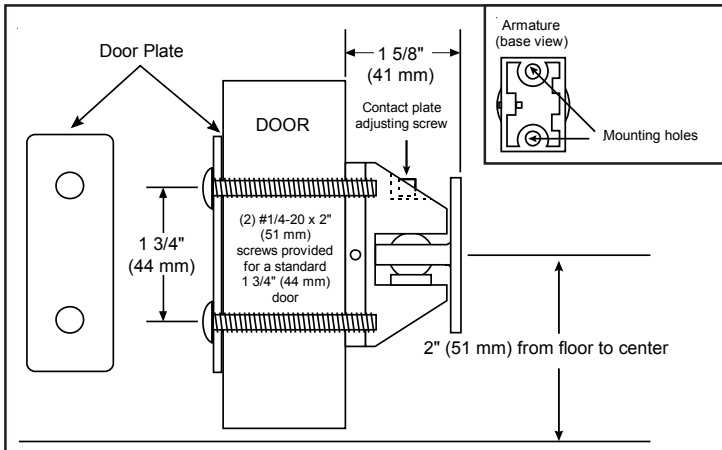

Figure 6. Thru-Bolt Mounting
1. Using a 5/32" Allen wrench, turn the contact plate adjusting screw (Figures 6 and 7) counterclockwise to loosen the contact plate.
- a. **Thru-bolt mounting (Figure 6).** Center punch the two holes (at the points marked in step 3) and drill 5/16" diameter through the door. Distance between the center points should equal 1 3/4" (44 mm).
Secure the armature assembly, with the contact plate adjust screw facing up, to the door as shown in Figure 6 using (2) #1/4-20 x 2" screws (supplied)